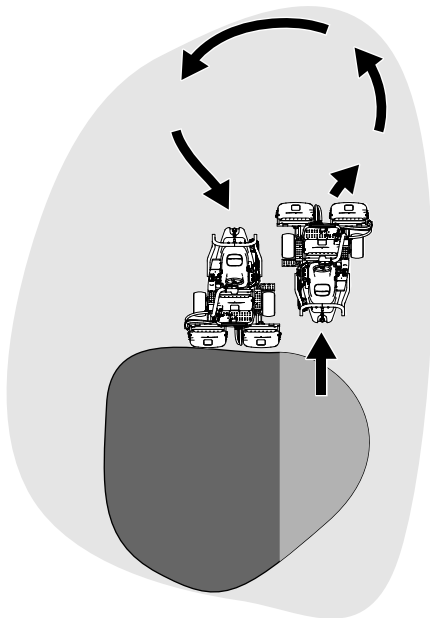

Figure 22
6. To cut down on operating time and to ease the lineup for the next pass, momentarily turn the machine in the opposite direction, then turn it in the direction of the uncut portion. This movement is a tear-shaped turn (Figure 22), which quickly lines the machine up for your next pass.